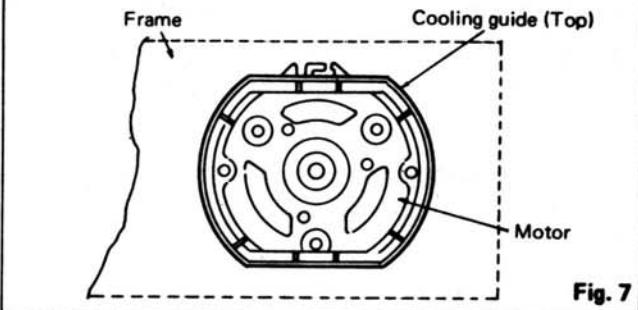

Fig. 7
- Inserting of Cooling Guide Top) into Motor should be performed properly as shown in Fig.7.